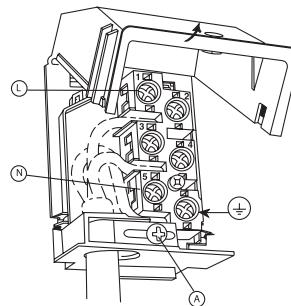

fig.16
- Open the junction box (see fig. 16).